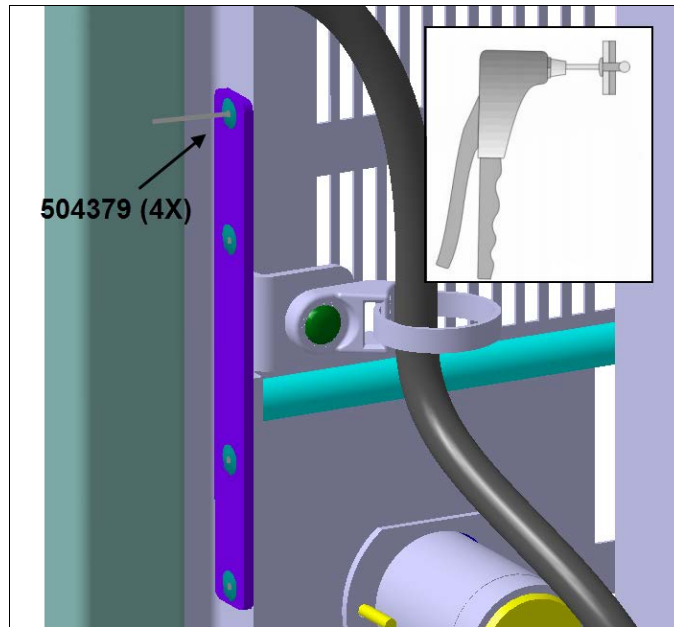

FIG.27 RIVETING THE PLATE
- 7) Using the 4 supplied **504379** 3/16" POP rivets and suitable hand riveter (POP rivet gun); rivet the plate to the door frame (Fig.27).